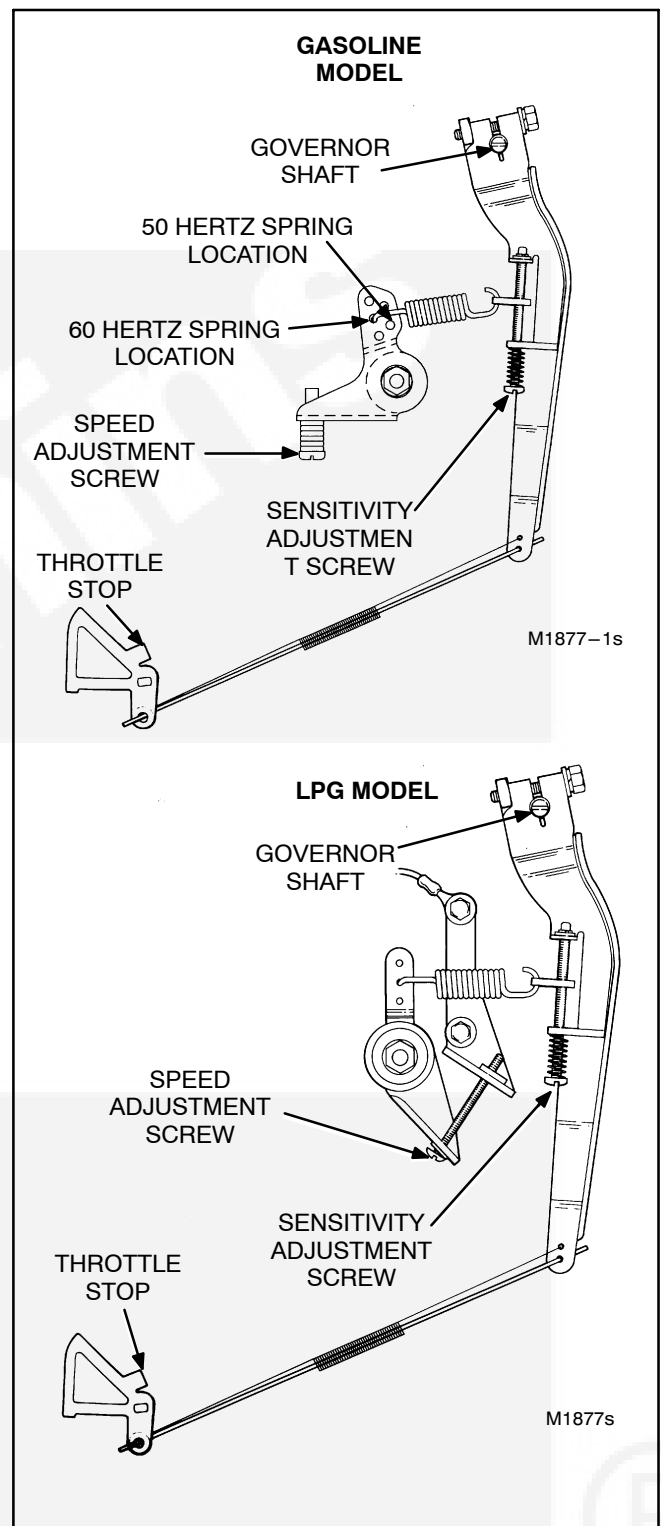

FIGURE 8-14. GOVERNOR ADJUSTMENTS
1. Loosen the bolt that secures the governor arm to the governor shaft (Figure 8-14).
4. With unit operating at no-load, adjust the speed adjustment screw (see Figure 8-14) on the governor linkage to obtain 62.5 ± 0.5 Hz, at between 120 and 126 volts on 60 hertz units. Set 50 hertz units to obtain 52.0 ± 0.5 Hz at between 220 and 231 volts for 220 volt units and 240 to 252 volts for 240 units.
2. Start the genset and apply a full load. Verify that the frequency is within 60.5 ± 1 Hz (50.0 ± 1 Hz on 50 Hz gensets) and adjust the governor speed adjustment screw (Figure 8-14) if necessary to obtain required frequency.